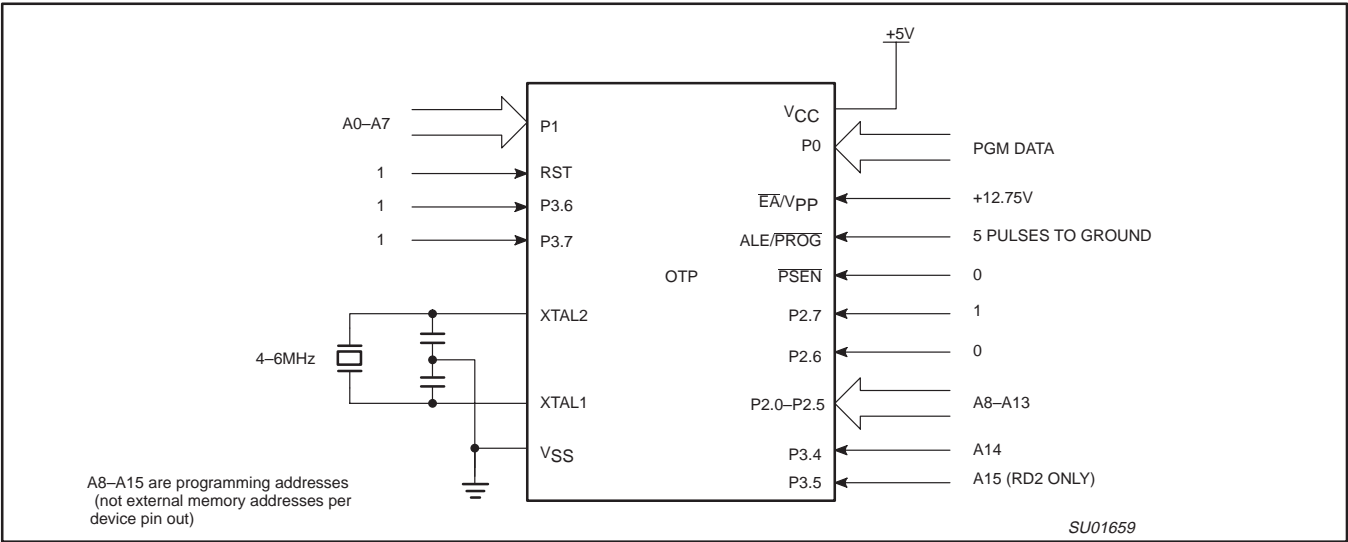
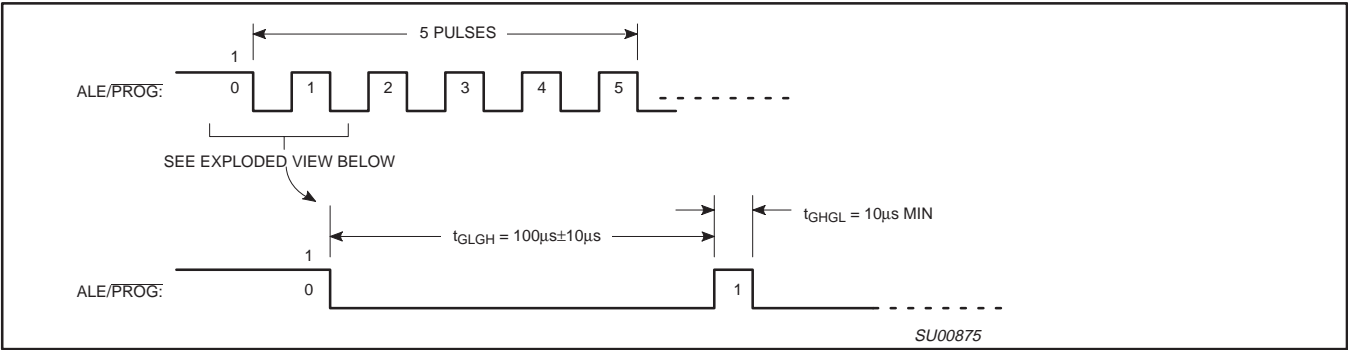
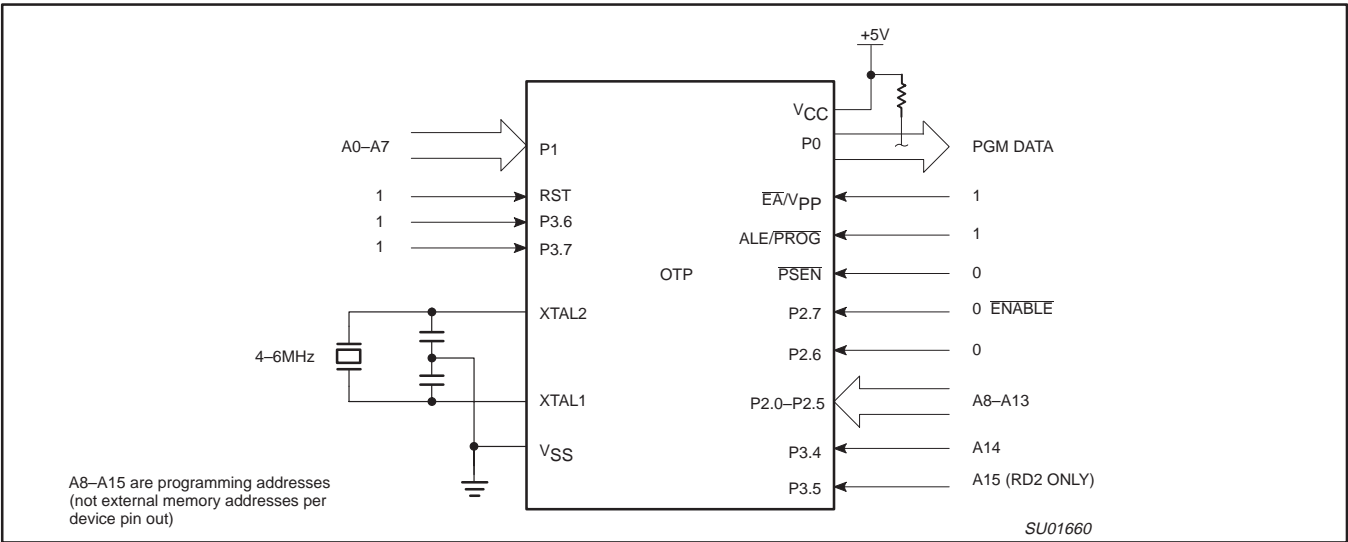

Figure 64. Programming Configuration
Figure 65. PROG Waveform
Figure 66. Program Verification
Table 17 shows the logic levels for reading the signature byte, and for programming the program memory, the encryption table, and the security bits. The circuit configuration and waveforms for quick-pulse programming are shown in Figures 64 and 65. Figure 66 shows the circuit configuration for normal program memory verification.
The setup for microcontroller quick-pulse programming is shown in Figure 64. Note that the device is running with a 4 to 6MHz oscillator. The reason the oscillator needs to be running is that the device is executing internal address and program data transfers.
The address of the EPROM location to be programmed is applied to ports 1 and 2, as shown in Figure 64. The code byte to be programmed into that location is applied to port 0. RST, \overline{PSEN} and pins of ports 2 and 3 specified in Table 17 are held at the 'Program Code Data' levels indicated in Table 17. The ALE/PROG is pulsed LOW 5 times as shown in Figure 65.
If security bits 2 and 3 have not been programmed, the on-chip program memory can be read out for program verification. The address of the program memory locations to be read is applied to ports 1 and 2 as shown in Figure 66. The other pins are held at the 'Verify Code Data' levels indicated in Table 17. The contents of the address location will be emitted on port 0. External pull-ups are required on port 0 for this operation.
* FOR PROGRAMMING CONFIGURATION SEE FIGURE 64.
FOR VERIFICATION CONDITIONS SEE FIGURE 66.